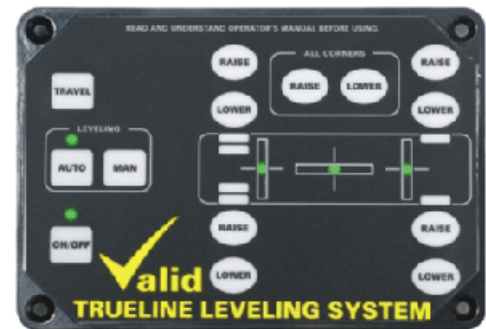

Fig 3
3. After the three cycles are complete, the vehicle should be level and all three level displays should be indicating green (Fig 3).